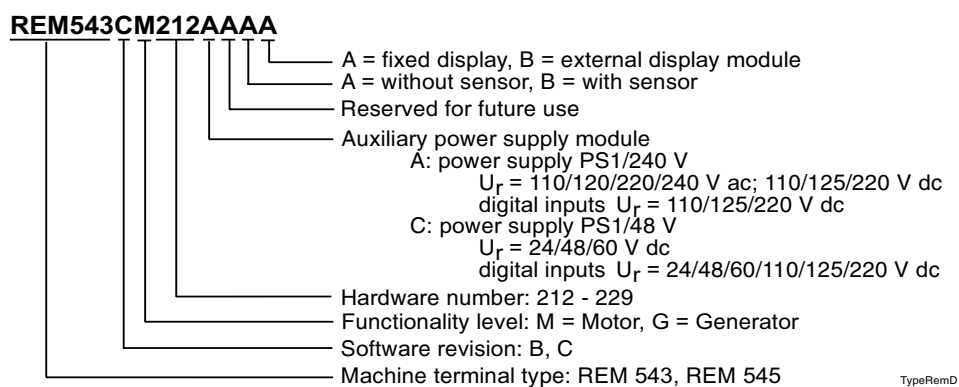

Fig. 6.1.-1 Order number of the REM 54_
- Order number (see Figure 6.1.-1 below)